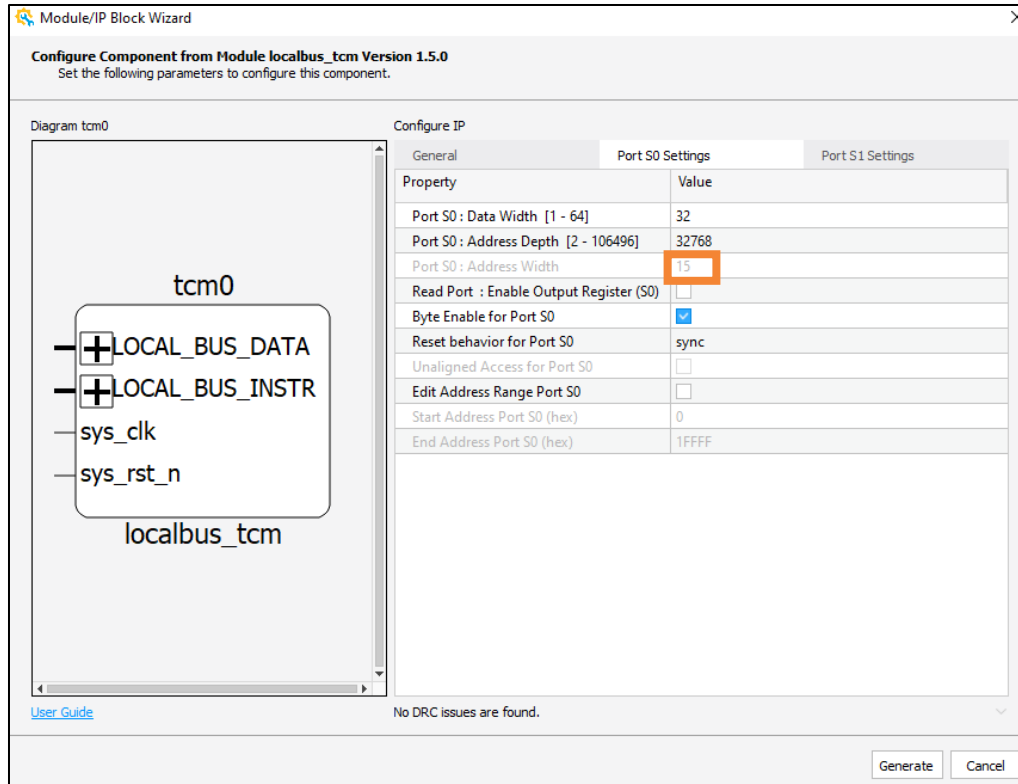
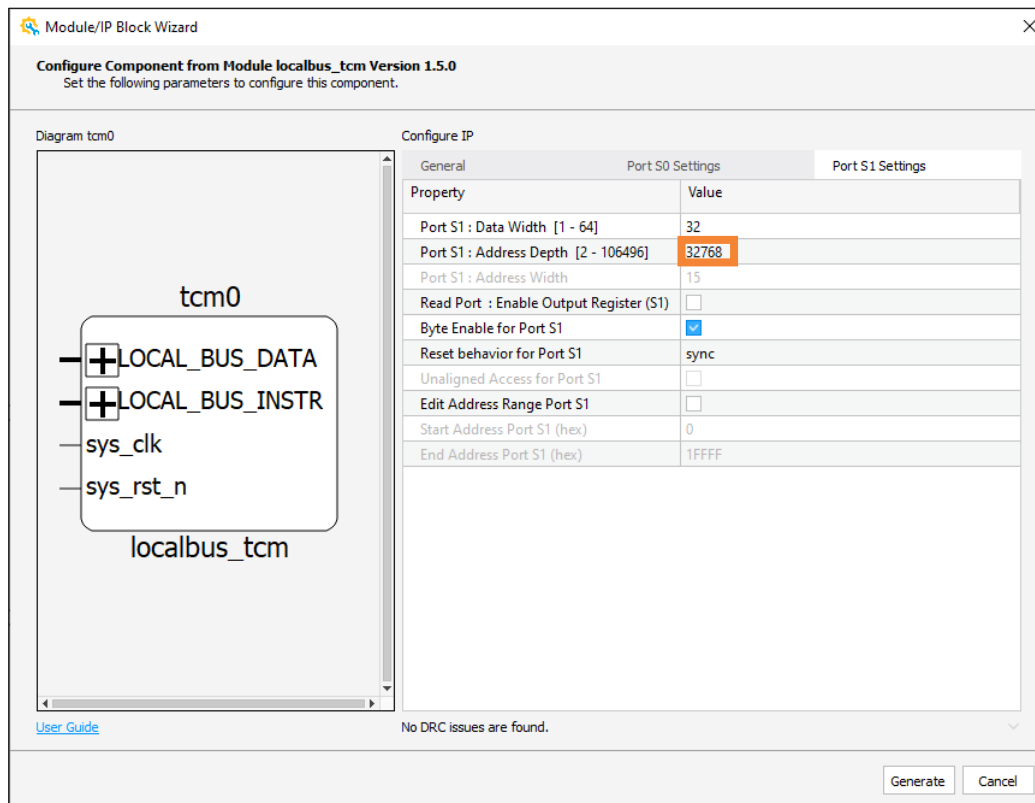

Figure 6.1. tcm0_inst Port S0 Address Depth Settings 1
Figure 6.2. tcm0_inst Port S1 Address Depth Settings 1
2. Lattice Propel Builder automatically opens. In Lattice Propel Builder, double-click tcm0_inst in the **Schematic** view, set a larger value for Address Depth both in Port S0 Settings (Figure 6.1) and Port S1 Settings (Figure 6.2). Click **Generate**.
2. Lattice Propel Builder automatically opens. In Lattice Propel Builder, double-click `tcm0_inst` in the **Schematic** view and set a larger value for Address Depth both in Port S0 Settings (Figure 6.1) and Port S1 Settings (Figure 6.2). Click **Generate**.